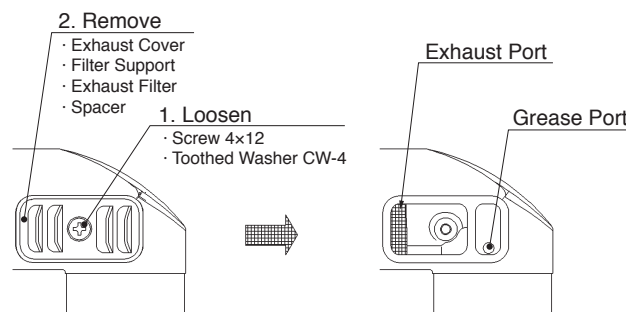

Fig. 16
4. For assembly, see Fig.16~19 and put back the parts in the reverse order of disassembly.